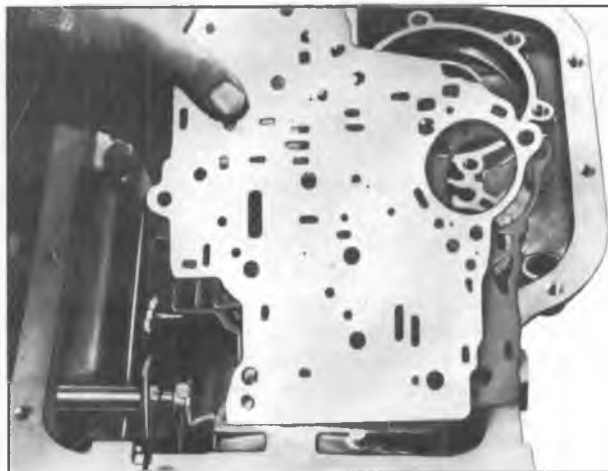

Figure 128—Installing Control Valve Spacer Plate and Gasket
3. Install control valve spacer plate-to-case gasket (gasket with extension for detent solenoid (fig. 128)).